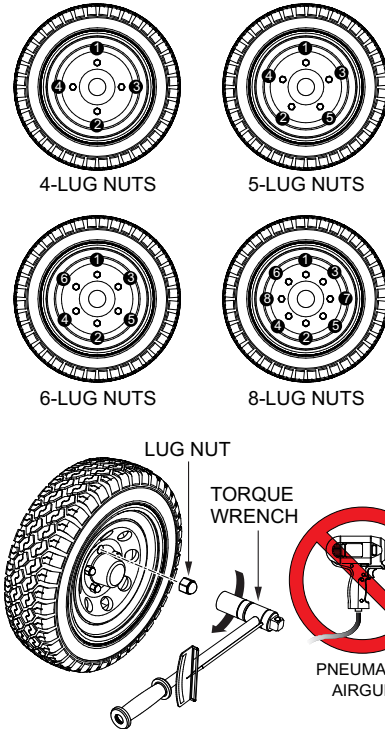

Figure 25. Lug Nut Torque Sequence
2. Torque all lug nuts (Figure 25) in sequence. **DO NOT** torque the wheel lug nuts all the way down. Tighten each lug nut in 3 separate passes as defined by Table 6.